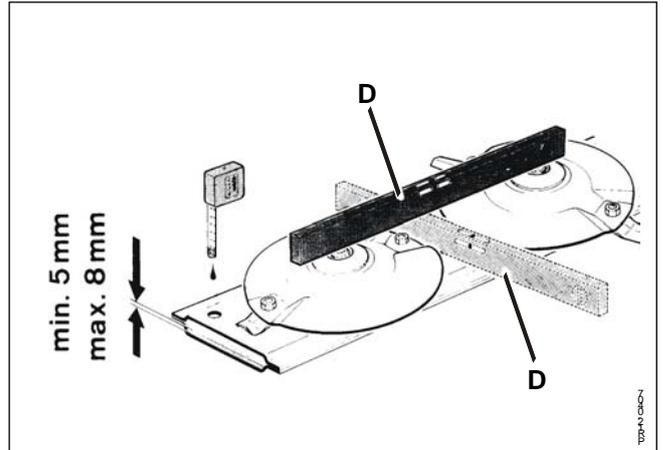

Fig. 4-3
**Fig. 4-3** In order to facilitate the daily oil check we can recommend to have a permanent "oil measuring place". This means that the check for "**horizontal cutter bar**", as shown on Fig. 4-2 and 4-3, only has to be made once.